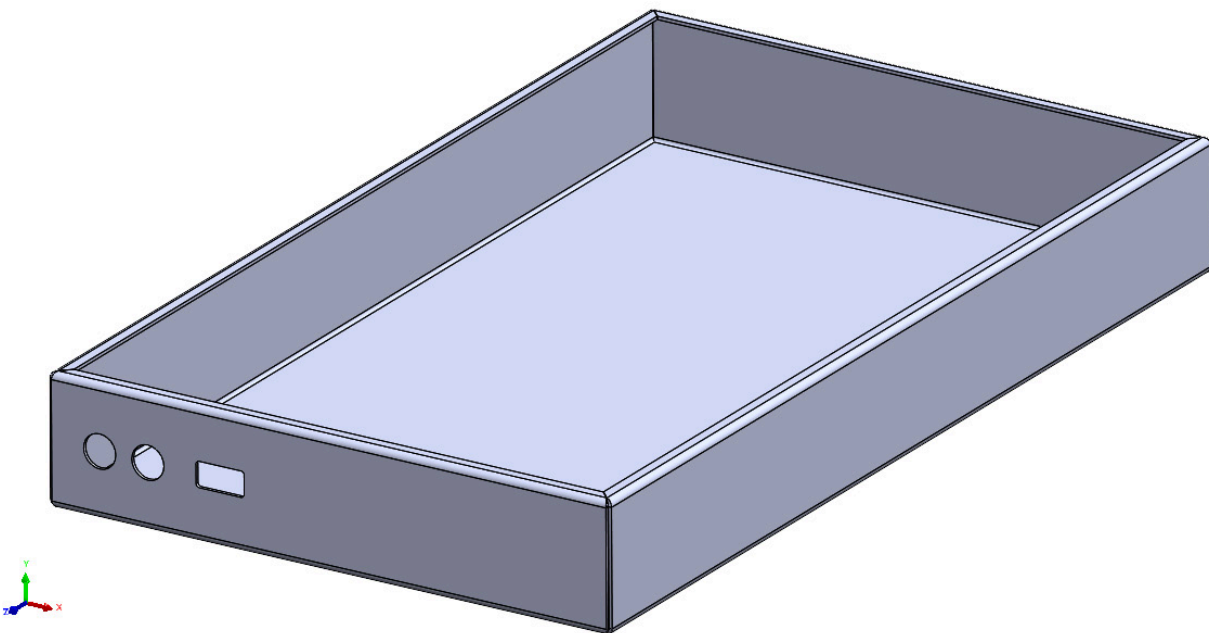

Figure 13.8 – The rectangular cut-out next to the two holes
7. Press **OK** to create the cut-out (Figure 13.8):